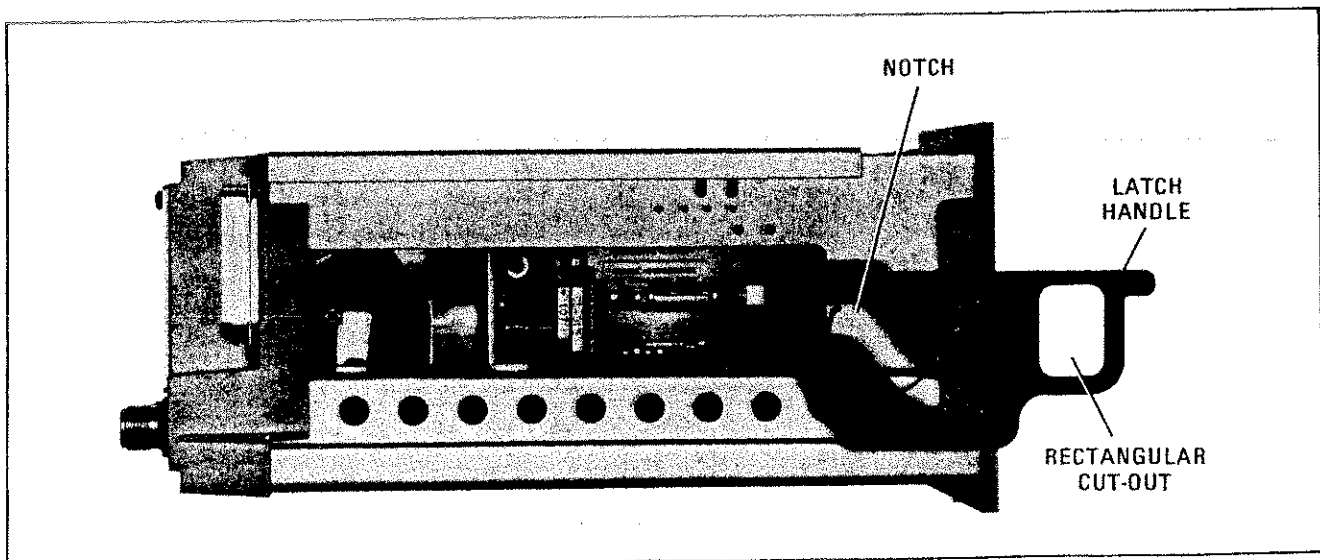

Figure 2-3. RF Plug-in Latch in Release Position
- b. Position latch handle located on left side of RF Plug-in so it is perpendicular to front panel. Portion of handle with rectangular cut-out should be facing forward and portion with notch should be facing rear of RF Plug-in as shown in Figure 2-3.
- a. Push inward on top of latch handle, shown in Figure 2-3, and pull forward and up on bottom of latch handle.